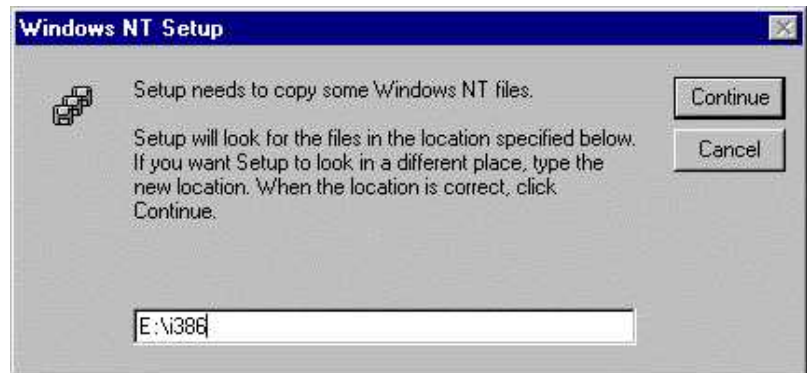

Fig. 8-12 Copy files
- If you are prompted to enter path in the "Windows NT Setup" dialog box, enter the path for the "i386" directory in the Windows NT 4.0 workstation CD (Fig. 8-12).